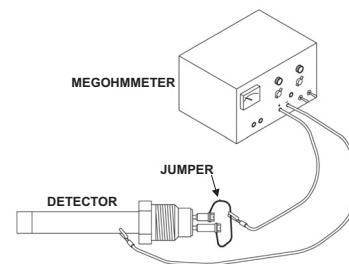

Figure 4. Insulation Resistance Test Setup
1. Connect one lead of a megohmmeter to the two terminal posts of the detector jumpered together. Connect the other lead of the megohmmeter to the detector shell. See the insulation resistance test setup in Figure 4.